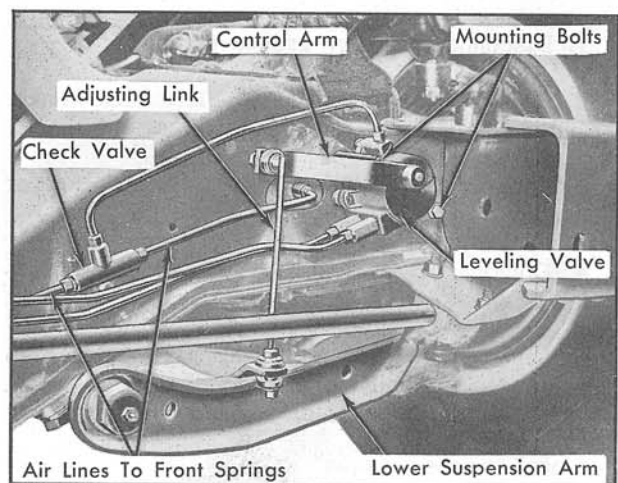

Fig. 4-20 Front Leveling Valve and Check Valve
3. Disconnect leveling valve air line at top of check valve, Fig. 4-20. (All air will exhaust from the front air springs and front end of car will lower into full compression in approximately 5 minutes).
2. Disconnect adjusting link at leveling valve control arm and pull down on control arm to exhaust air from front springs, Fig. 4-20.